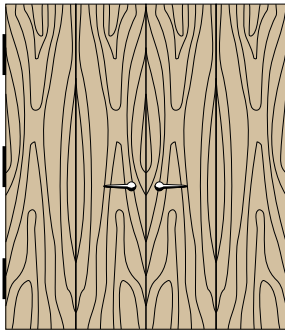

Figure: 9-001
- **Pair Match** - Two doors hung adjacent may be (and in some Grades, must be) specified as a Pair Match. Note to specifying authority: Specifying Pair Matched only means the two doors are to be considered Pair Matched as per the Grade specified, it does not mean the veneer is sequenced, nor does it designate the veneer cut or layup. The Grade specified will determine the type of Match required. Sequencing, veneer cut and layup if different from the Grade Rules must be specified. The illustration in Figure 9-001 shows flat or plain cut, book matched, center matched faces.